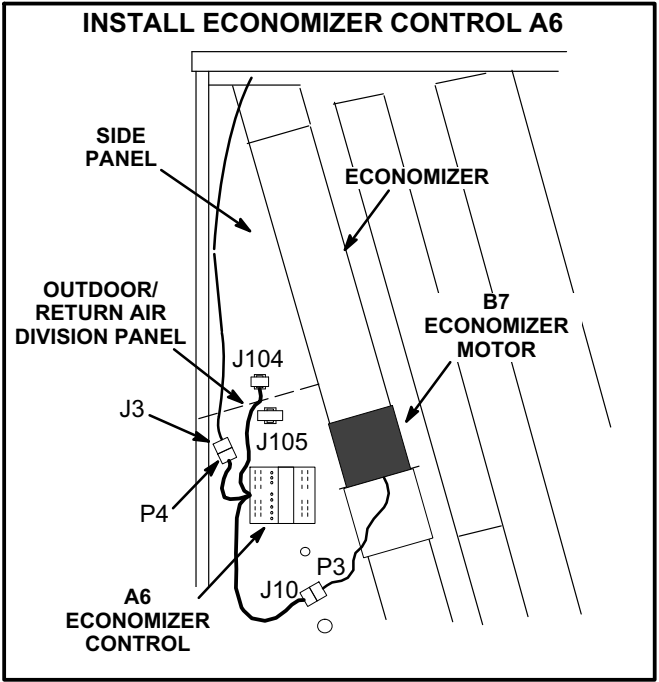

FIGURE 4
- 1- Install A6 economizer control on economizer side panel as shown in figure 4. Secure with #6-32 X 7/8" TFS screws provided.
- 1- Locate 15-pin J3 economizer jack harness hanging on left side of compartment. Disconnect P3 jumper plug from J3 and retain for future troubleshooting. Connect 15-pin P4 economizer plug on A6 economizer control harness to J3 economizer jack. Refer to figure 4.
- 2- Insert 2-pin J104 jack from economizer control harness into opening on side panel and snap into place. See figure 4 for location of opening.
- 3- Connect 15-pin J10 economizer jack to P3 economizer motor plug as shown in figure 4.